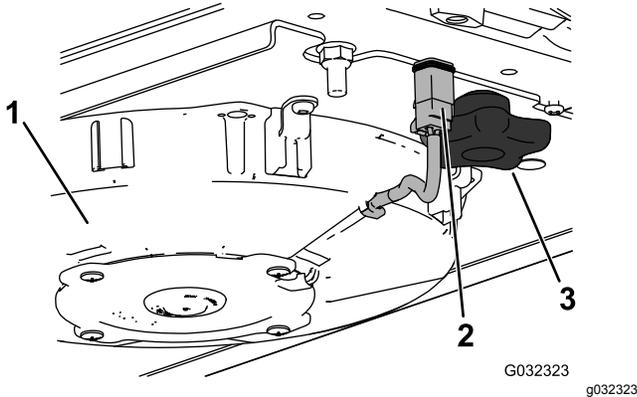
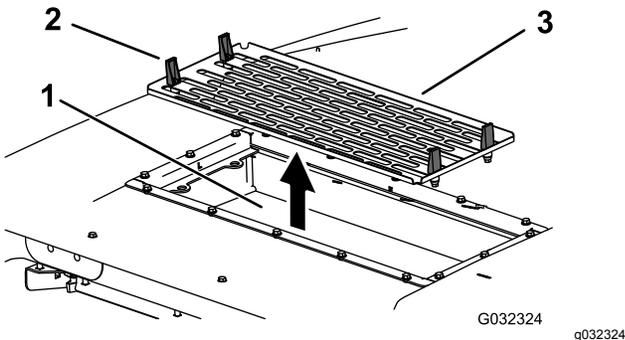

Figure 150
Figure 151
2. Disconnect the wire for each fan (Figure 150).
4. Open the 4 latches on the air-conditioning assembly and remove the screen (Figure 151).
7. Install the air filters, screen, and fan assembly (Figure 149, Figure 150, and Figure 151).
8. Connect the wire for each fan (Figure 150).